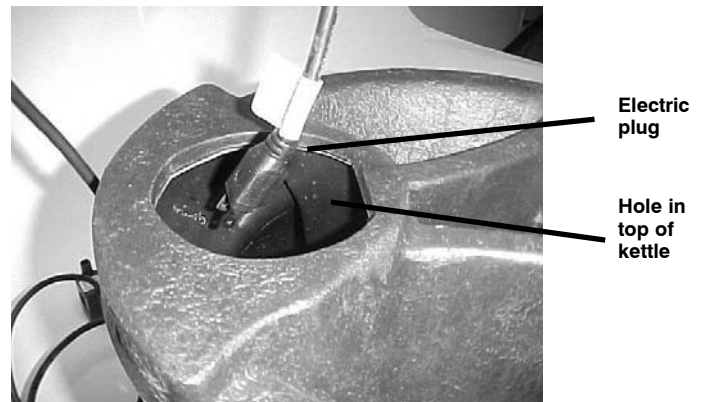

FIGURE 2
4. Feed the electric plug through the center hole at the top of the kettle (Figure 2) and then through the 1-1/8" hole in the side of the basin. The pump should rest on the bottom of the kettle.